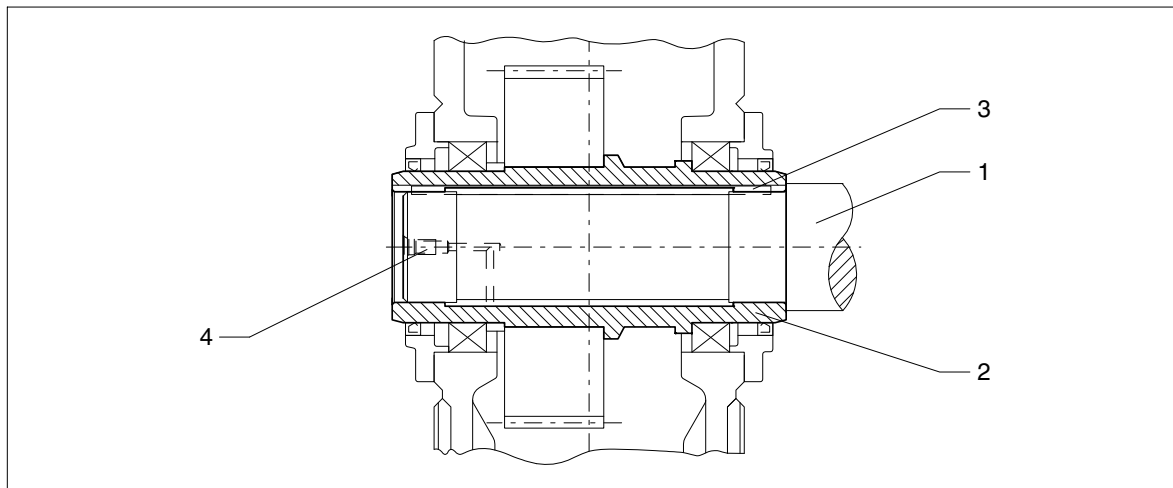

Fig. 40: Hollow shaft with parallel keyway, preparation
To facilitate demounting (see item 6.4.3), we recommend providing a connection for pressure oil in the end of the driven-machine shaft end, which is drilled through to the hollow-shaft recess (see figure 40). This connection may also be used for supplying rust-releasing agent.
- If frictional corrosion has occurred on the seating surfaces, rust-releasing agent may be used to facilitate forcing off the gear unit. The rust releaser can be injected through the pressure-oil connection (see figure 40), using a pump.